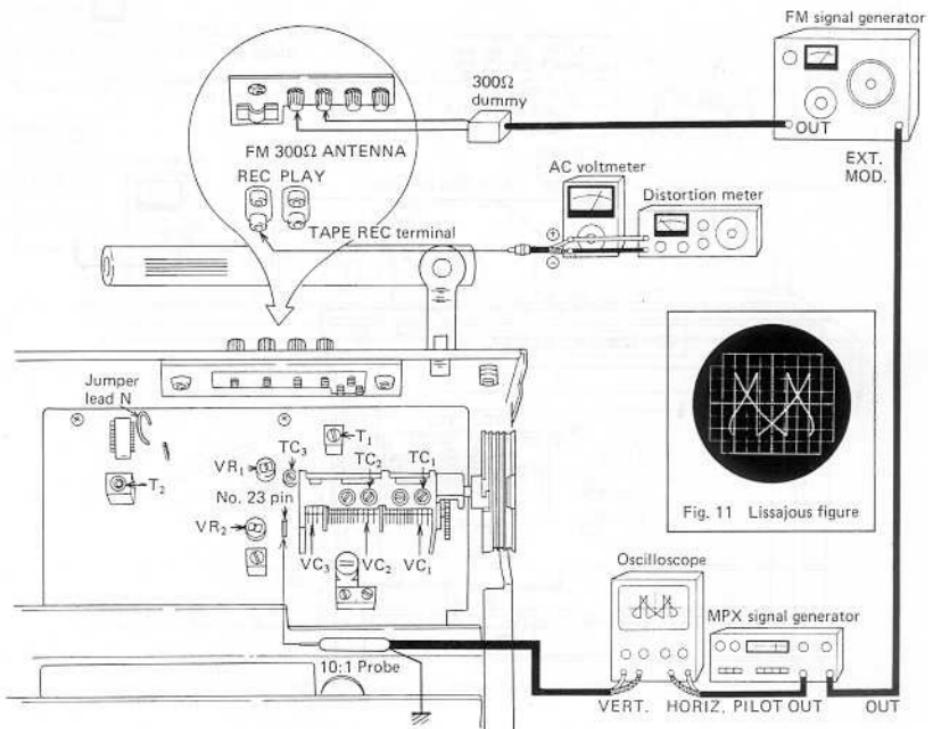

Fig. 10 Connection diagram for FM tuner adjustment
1. Connect the test instruments as shown in Fig. 10.
23. Turn the FM MUTING switch to ON, and check the muting threshold. If the muting lead N (Fig. 10).